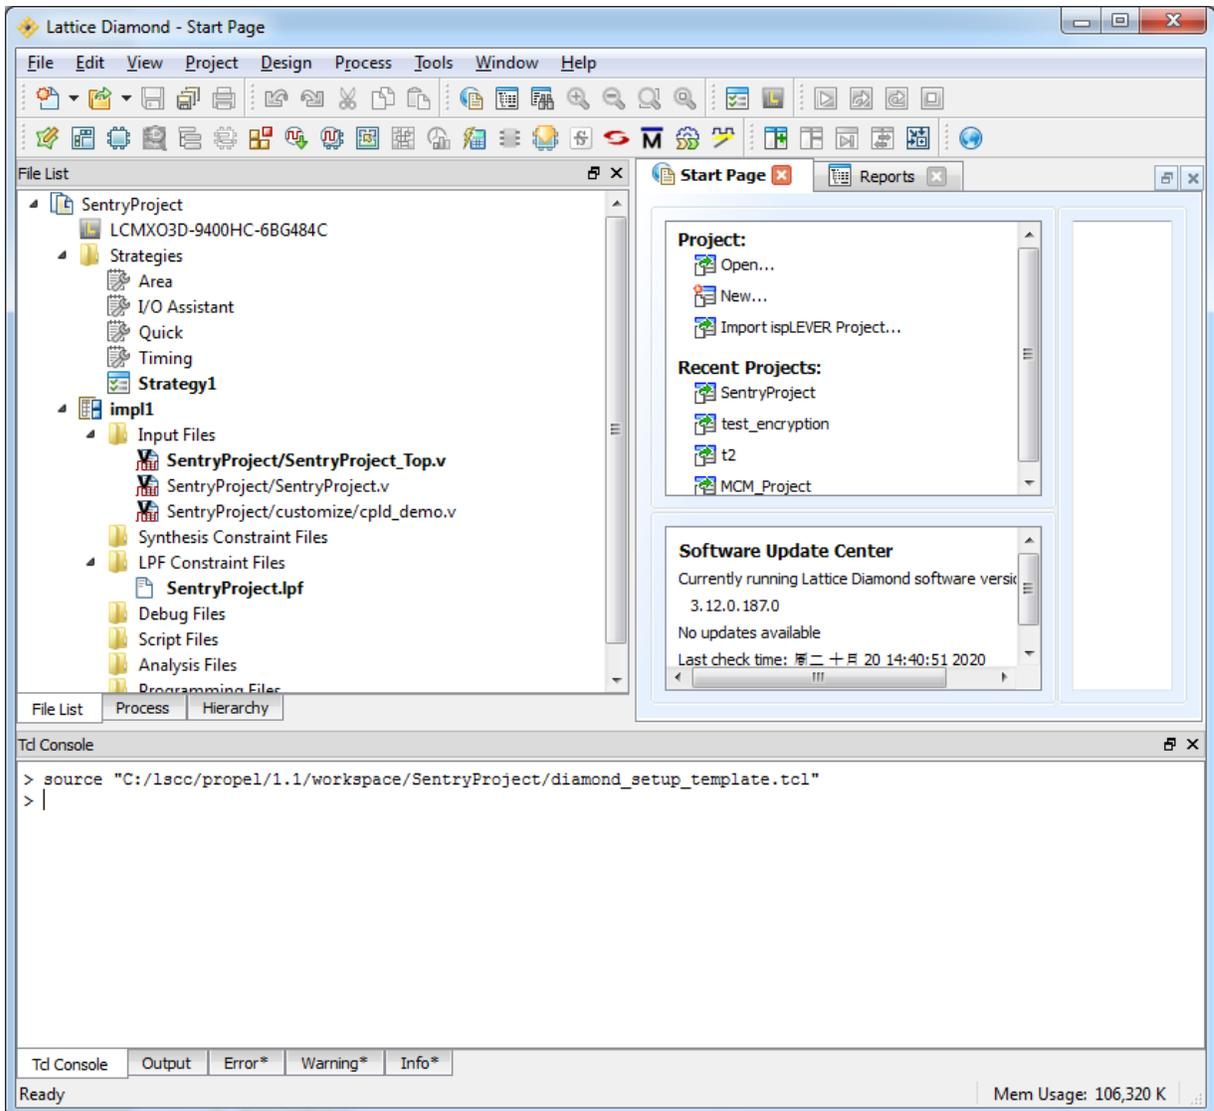

Figure 2.44. Diamond Project
- b. Lattice Diamond is launched with a Diamond project generated for SoC at background (Figure 2.44).